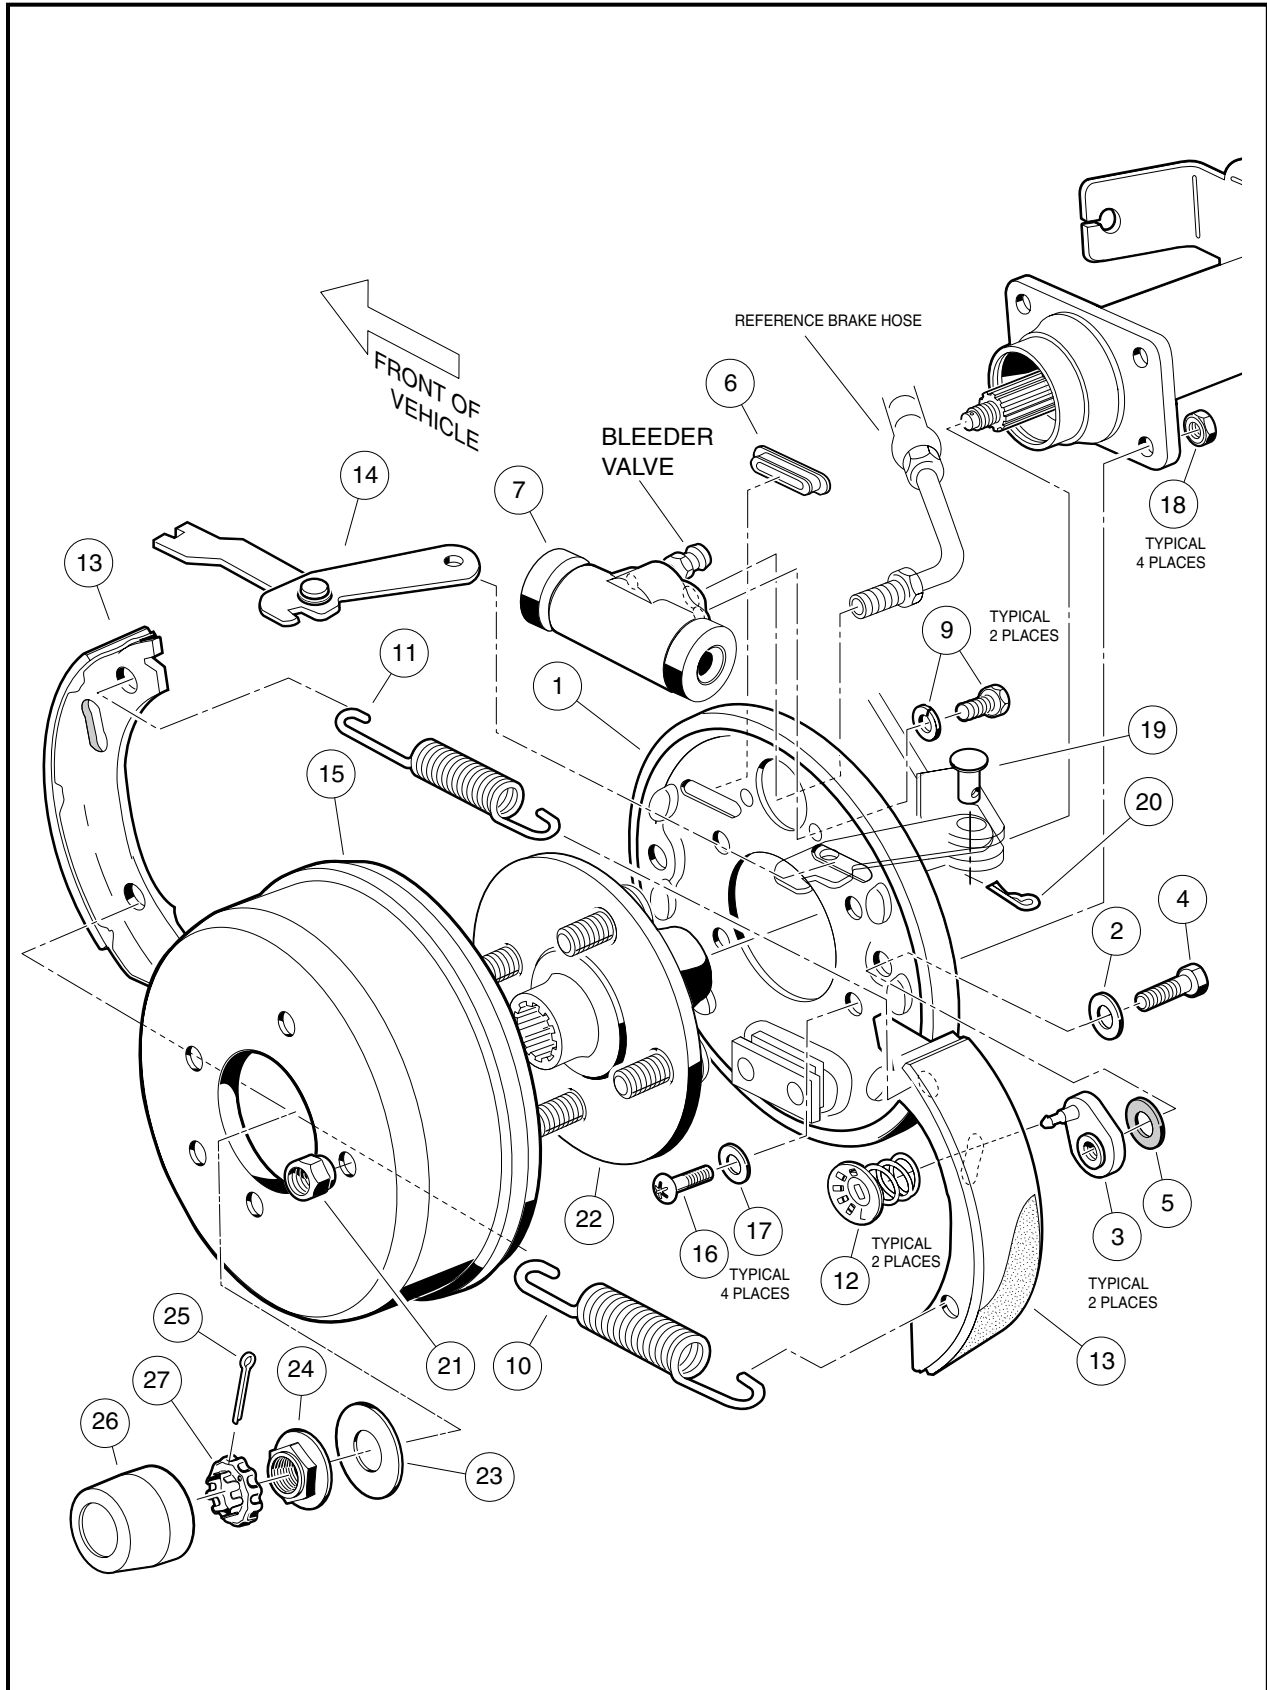

Figure 6a-21 Rear Hydraulic Brake Cluster Assembly
5. Remove two bolts (9) and lock washers that secure the wheel cylinder to the brake cluster mounting plate (1), and remove the wheel cylinder (7) (**Figure 6a-21, Page 6a-25**).
1. Install wheel cylinder (7) with two bolts (9) and lock washers to the brake cluster assembly mounting plate (1) (**Figure 6a-21, Page 6a-25**). Tighten the two bolts to 120 in-lb (13 N·m). **See following NOTE.**
2. Using a 3/8-inch flare nut wrench, attach the brake hose fitting to the brake cluster wheel cylinder (**Figure 6a-19, Page 6a-22**).
4. With the back plate removed, grip adjuster arm (3) with a pair of locking pliers. Use a Torx #T-27 driver or 7/16-inch socket to remove the bolt (4), flat washer (2), and Bellville washer (5) from the brake cluster back plate (1) (**Figure 6a-3, Page 6a-4**). Remove remaining adjuster assembly and discard all adjuster components (3, 4, 2, and 5) for both assemblies.
1. Install bolt (4) through flat washer (2) and through the brake cluster back plate (1) (**Figure 6a-3, Page 6a-4**).
2. Apply a light coat of grease to the Bellville washer (5) and install the washer onto the bolt (4) and against the inside surface of the back plate (1) (**Figure 6a-3, Page 6a-4**).
3. Carefully apply Loctite® 222 to the threaded portion of the bolt (4) and attach the adjuster arm (3). Position adjuster so that the brake mounting post is to the top of the back plate. (**Figure 6a-3, Page 6a-4**).
4. Grip adjuster arm (3) with a pair of locking pliers. Use a Torx #T-27 driver or 7/16-inch socket to tighten the bolt (4) to 115 in-lb (13 N·m) (**Figure 6a-3, Page 6a-4**).